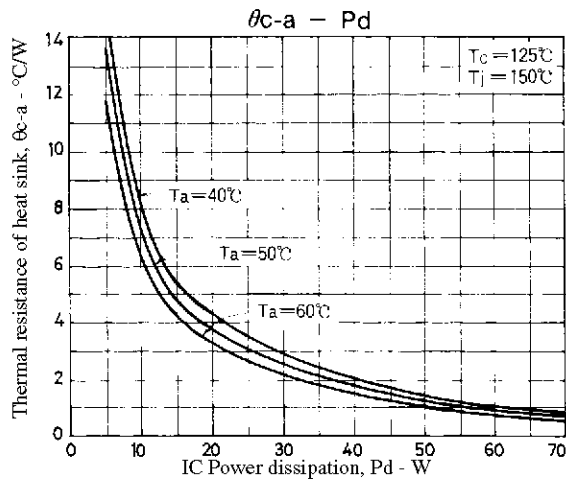

Figure 3. STK4040V θc-a – Pd
Figure 3 shows the relation between Pd and θc-a given from (1) and (3) with Ta as a parameter.
The thermal resistance of a heat sink is obtained from Figure 3.